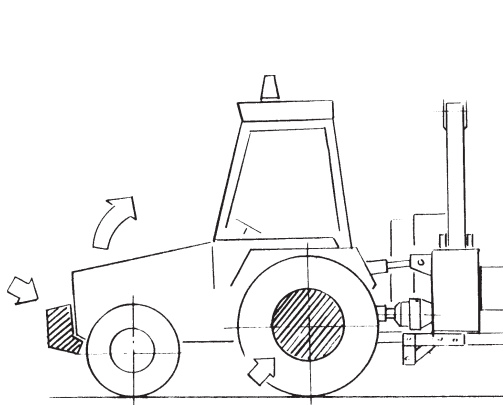

Fig. 20
- Ballast the front of the tractor and the rear wheel opposite to the operating arm (FIG. 20).